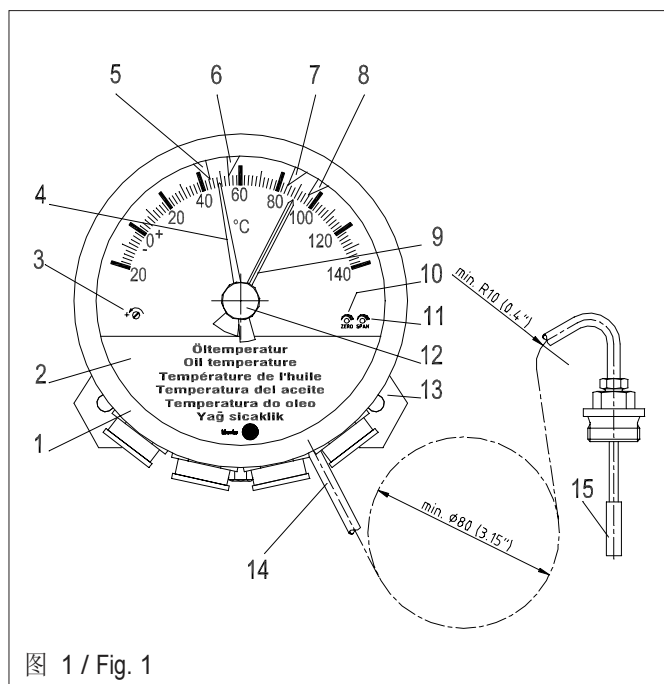

图 1 / Fig. 1
指针式温度表借助固定底板（图 1/13）安装到变压器上。安装孔之间距离140毫米，孔直径9毫米。指针式温度表不要安装在有震动或电源电压波动的地方。指针式温度表要垂直安装。
The pointer thermometer is attached to the transformer by its mounting plate (Fig.1/13). The spacing between the fixing holes is 140mm and the diameter of the holes is 9mm. Fix the thermometer in such a position that it will not be subject to vibration or mains voltage fluctuations. The thermometer should be installed vertically.
3.2 毛细管（图 1/14）
展开毛细管时不得扭绞或成卷。要避免撕裂、强拉、挤压或弯曲毛细管。绝不可用毛细管提携温度计。先确定毛细管的走向，再安装到位。多余的毛细管盘成圆圈，放到不会受热的地方（最高60°C）。最小弯曲半径80毫米（见图1）。
3.2 Capillary tube (Fig. 1/14)
Roll out the capillary tube avoiding kinks and loops. Do not rip, pull, squeeze or bend this tube. Never carry the thermometer by the capillary tube. Route the capillary tube and fix it in position. Roll up excess tube and store it in a position not subject to excessive temperatures (max. 60°C). Minimum winding diameter is 80 mm (see fig. 1).
3.3 温度传感器（图 1/15）
3.3 Temperature sensor (Fig.1/15)
3.5 最大读数指针 (图 1/9)
最大读数指针是由指针拖动，记录温度测量当中出现过的最大读数。最大读数指针可以用旋钮调节 (图 1/12)
3.5 Maximum pointer (Fig.1/9)
The maximum pointer is operated by the pointer and records the maximum reading of a temperature measurement. The maximum pointer can be reset using the knob (Fig. 1/12).
关闭装置时，要确保最大读数指针 (图 1/4) 处于正确位置。将卡圈放回原位，并顺时针转到头。
连接微动开关时要折起盖板 (图 1/2)。连接导线削皮约 160 毫米长，连接导线的绝缘材料削去约 6 毫米。将有连接线的电缆密封套安装到装置上。然后按照附录中的图 (图 14) 连接。注意电缆密封套的密封圈一定要拧紧以防液体渗漏。
When closing the device, make sure that the maximum pointer (Fig. 1/9) is in the correct position. It must be to the right of the pointer (Fig. 1/4). Replace the ring and turn it clockwise as far as it will go.
To connect the microswitches fold up the covering plate (Fig. 1/2). Remove the sheaths of the required connection lines to a length of approx. 160 mm and then the insulation of the required leads to a length of approx. 6 mm. Install the cable glands with the connection lines at the device. Therefore see the drawing in the appendix (Fig. 14). Take care that the sealing ring of the cable gland squeezes the cable so that no liquid can escape. Lose the
使用调节螺母（图 1/3）进行指针校准，模拟输出不会做相同的调节。这样，指针式温度计和连接至模拟输出的测量仪器之间的读数会出现误差。模拟输出在工厂时已用电位器“ZERO”（图 1/10）和“SPAN”（图 1/11）校准并设定好。重新调节会造成失去质量保证。
A correction of the pointer using the adjustment screw (Fig. 1/3) does not make the same adjustment to the analogue output. For this reason, a deviation between the readings of the pointer thermometer and a measuring instrument connected to the analogue output can take place.
The analogue outputs are calibrated and set at the factory using the potentiometers „ZERO“ (Fig. 1/10) und „SPAN“ (Fig. 1/11). Readjusting them results in the loss of guarantee.
指针式温度表已在工厂校准。如还要再调整，则显示控制和测量值比较只能在保持温度恒定（大约15分钟）的流动水浴缸内进行。可进行再调整。调节螺丝（图1/3）位于温度计前面。
The pointer thermometers are calibrated at the factory. If it is necessary to readjust it, indication control and comparison measurements should only be carried out in moving water baths whose temperature remains constant for several minutes (approx. 15 min.). Readjustments are possible. The adjustment screw (Fig. 1/3) is on the front of the instrument.